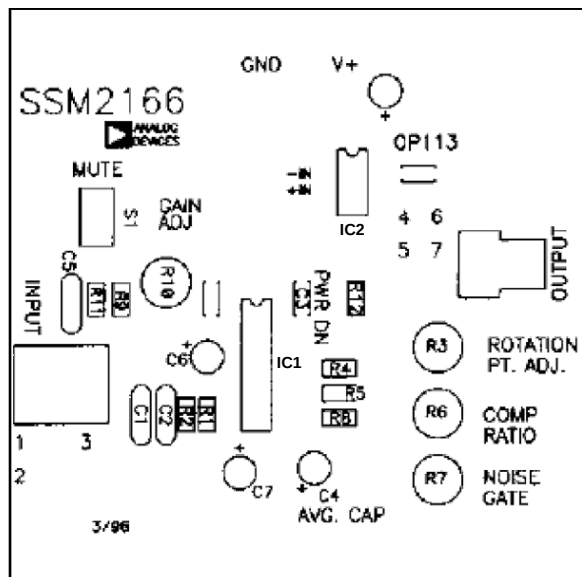
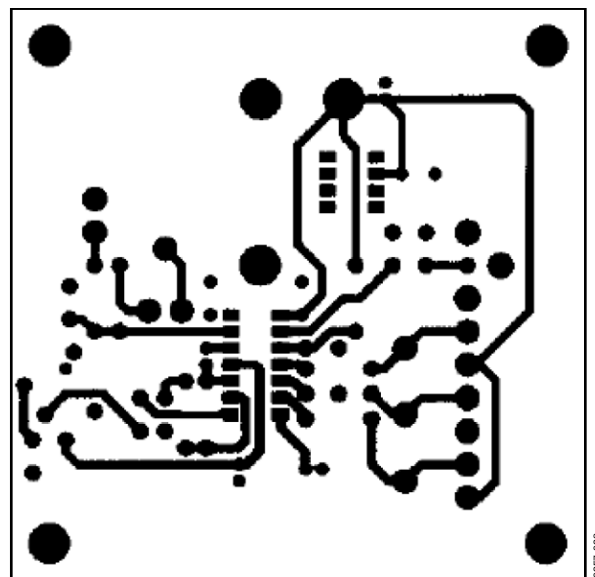
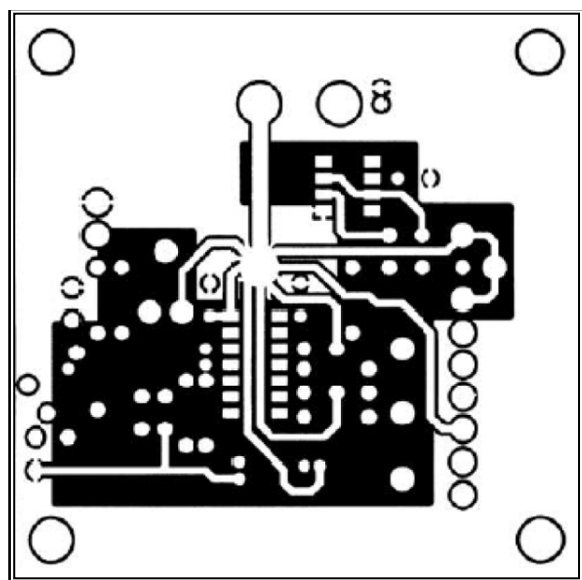

Figure 27. Evaluation Board Topside Silkscreen (Not to Scale)
Figure 29. Evaluation Board Backside Metallization (Not to Scale)
Figure 28. Evaluation Board Topside Metallization (Not to Scale)
- A single-point (star) ground implementation is recommended in addition to maintaining short lead lengths and PCB runs. The evaluation board layout shown in Figure 27, Figure 28, and Figure 29 demonstrates the single-point grounding scheme. In applications where an analog ground and a digital ground are available, the SSM2166 and its surrounding circuitry should be connected to the analog ground of the system. Because of these recommendations, wire-wrap board connections and grounding implementations should be avoided.
A schematic diagram of the **SSM2166** evaluation board is illustrated in Figure 26. As a design aid, the layouts for the topside silkscreen and the topside and backside metallization layers are shown in Figure 27, Figure 28, and Figure 29. Although not shown to scale, the finished dimension of the evaluation board is 3.5 inches by 3.5 inches and comes complete with pin sockets and a sample of the **SSM2166**.